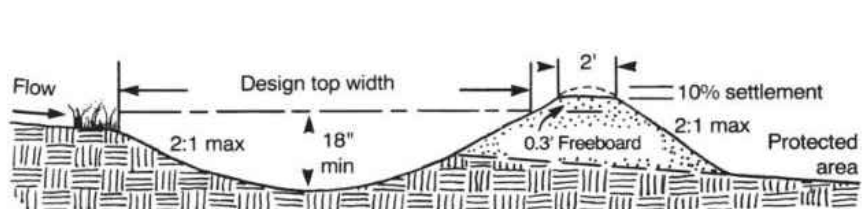

Figure 6.20b Temporary diversion cross section.
- Ridge cross section (Figure 6.20b): Side slopes—2:1 or flatter (3:1 or flatter where vehicles cross) Top width—2 ft minimum Freeboard—0.3 minimum
**Construction** Construct diversion to dimensions and grades shown in plan (Figure 6.20b). Build ridge higher than design and compact with wheels of construction equipment. Compacted ridge must be at or above design grade at all points. Channel must be constructed on design grade. Leave sufficient area along diversion to permit cleanout and regrading.